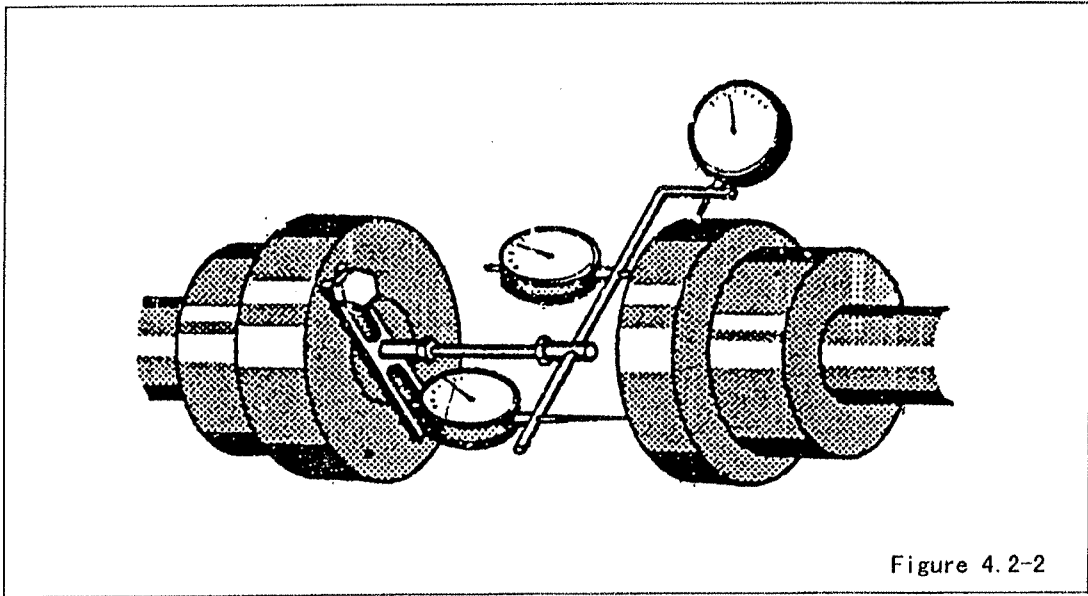

Figure 4.2-2
4.2.5 If it requires more precise rectification (under the condition of revolving speed of >3600 rpm or having the condition of middle section), it has to use dial gauge to rectify along the radial direction and axial direction (see Figure 4.2-2). At the place of maximum diameter, the allowable difference of the axial direction is 0.05mm and it is as far as possible to attain $\leq 0.03\text{mm}$; at the place of maximum diameter, the allowable difference of the radial direction is 0.1mm and it is as far as possible to attain $\leq 0.05\text{mm}$.